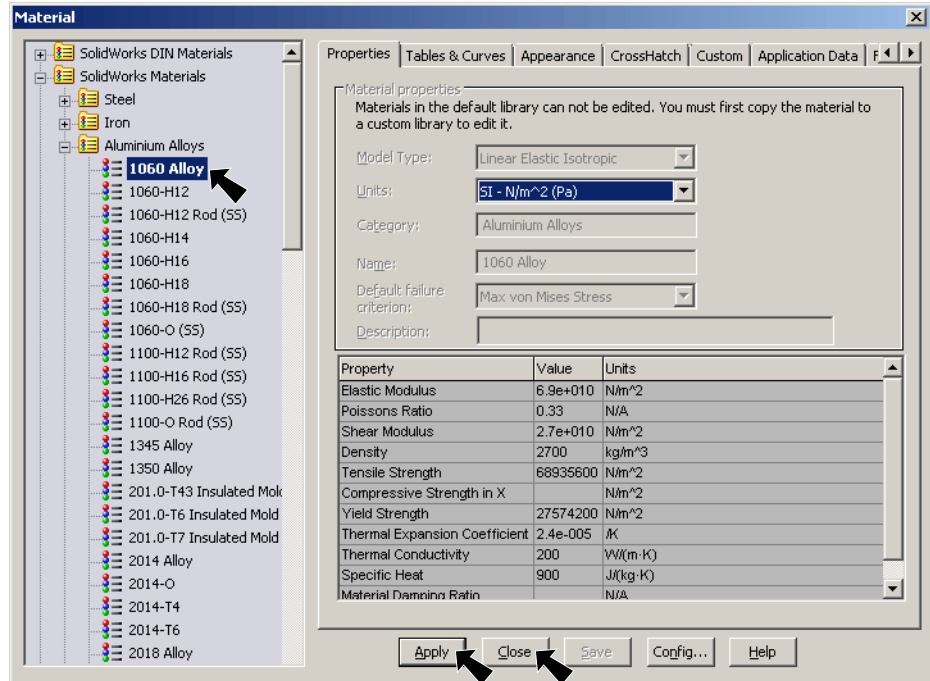

Fig. 13
Step 2. Expand Aluminum Alloys in the material tree and select 1060 Alloy, Fig. 13. Click Apply and Close.